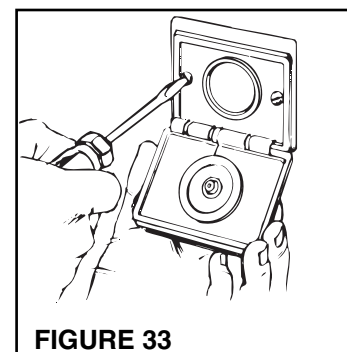

FIGURE 33
10. Insert wall inlet into bracket and secure with the two screws provided (Figure 33).